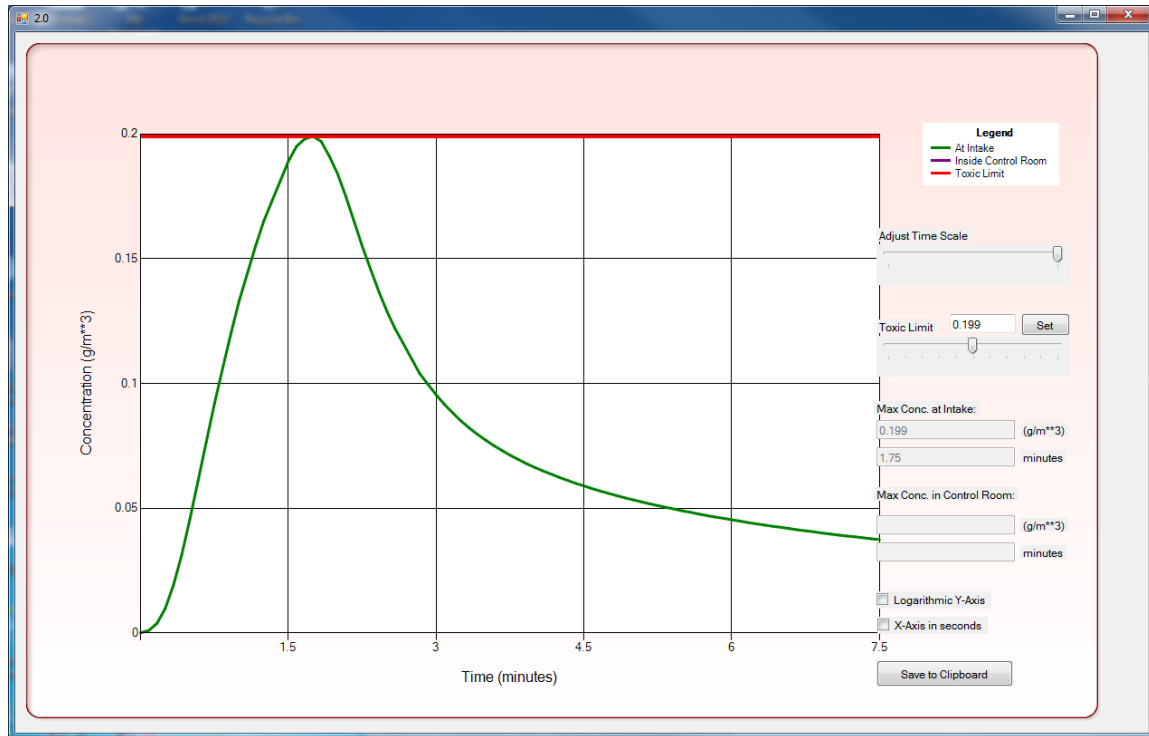

Figure 6-3: EXTRAN Graph
- The Plot Results button will create a graph plotted with the concentration output. Time scale and Toxic Limit can be adjusted by using the slider (Figure 6-3: EXTRAN).